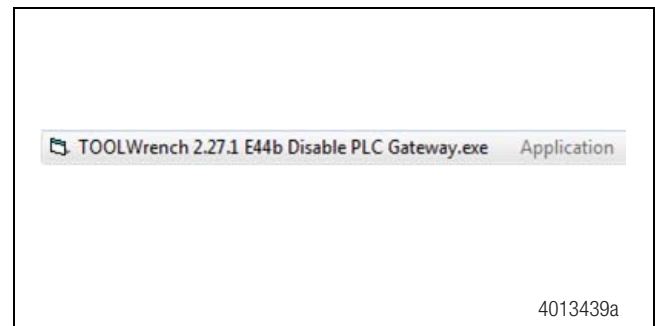

Figure 1
4. Select the file name and change the file extension from .XEX to .EXE. When finished, the file name will be TOOLWrench 2.27.1 E44b Disable PLC Gateway.exe. Figure 1.